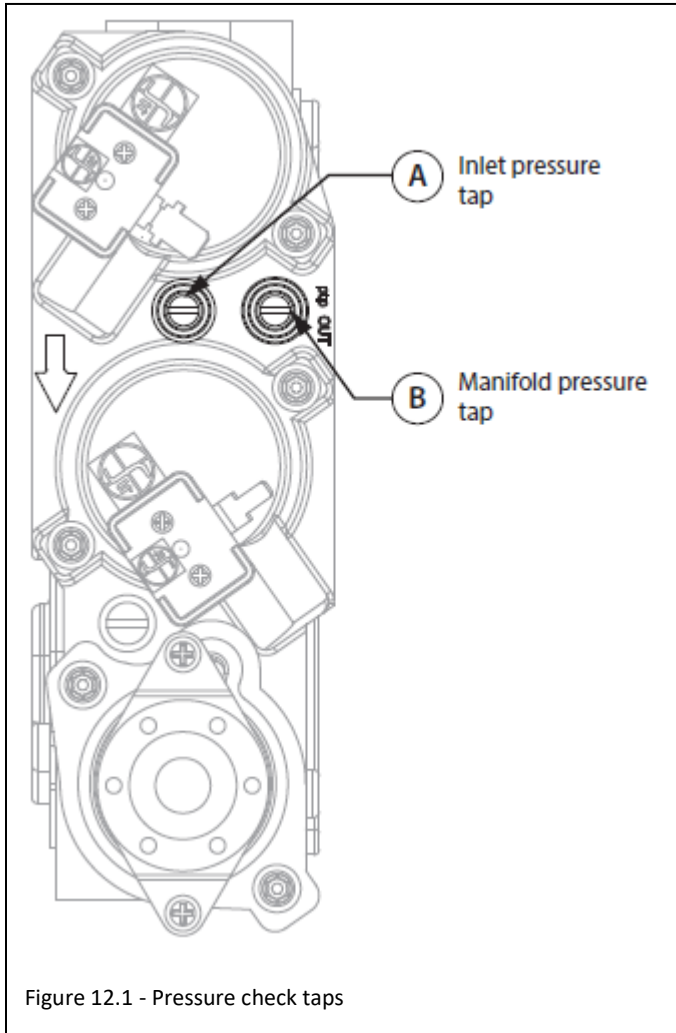

Figure 12.1 - Pressure check taps
1. Loosen the inlet (IN) pressure tap by turning screw counter-clockwise. See (A) in FIGURE 12.1.
5. Disconnect hose and tighten the inlet (IN) pressure tap by turning screw clockwise. Screw should be snug. Do not over tighten.
6. Relight pilot and burner. Then reattach manometer to the inlet pressure tap (A) to verify the tap is completely sealed. Manometer should read no pressure.
2. Loosen manifold (OUT) pressure tap by turning screw counter-clockwise. See (B) in FIGURE 12.1.
7. Attach the manometer to the manifold pressure tap (B) to verify it is completely sealed. The manometer should read no pressure when pilot and burner are on.